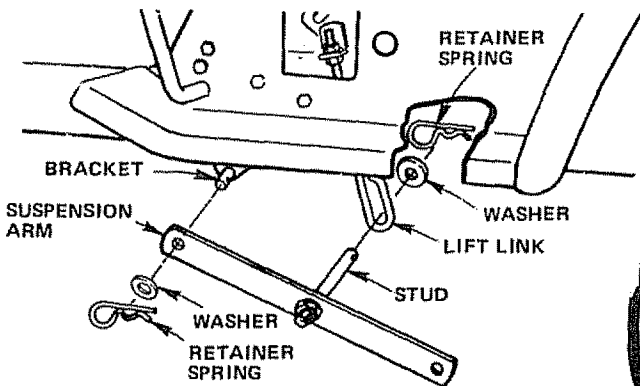

FIGURE 12A
4. Slide Studs through Lift Links on both sides of Tractor (Fig. 12A). Retain with Washers and Retainer Springs found in Bag of Parts.
5. Place the Suspension Arms on Brackets on both sides of Frame (Fig. 12A). Retain with Washers and Retainer Springs found in Bag of Parts.